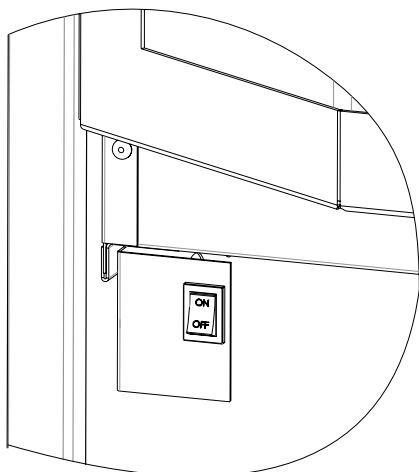

Figure 70
- B. Turn on the main electrical power to the fireplace and turn the main burner switch to the ON position. See Figure 70. Verify power is on by checking if there is power to the circuit board. If the unit has power, the power light will be illuminated.